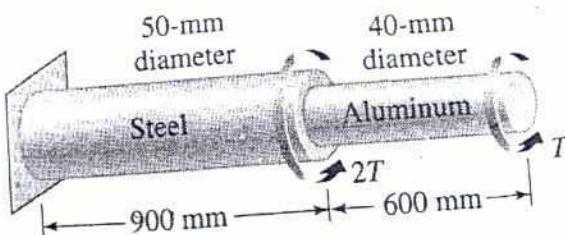

Figure 3
- Q3 The compound shaft consisting of steel and aluminium segments carries two torques, as shown in **Figure 3**. Determine the maximum permissible values of  $T$  subject to the following design conditions:  $\tau_{st} \leq 80 \text{ MPa}$ ,  $\tau_{al} \leq 55 \text{ MPa}$  and  $\theta \leq 6^\circ$  (where  $\theta$  is the angle of rotation at the free end). Use  $G = 83 \text{ GPa}$  for steel and  $G = 28 \text{ GPa}$  for aluminium.